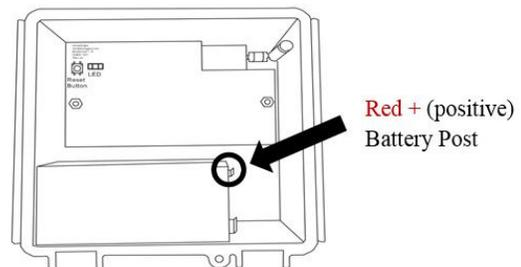

Figure 2
3. Hook up the Master unit battery by connecting the red wire to the red post on the battery inside the unit (see *Figure 2*). You will see **the LED flash rapidly in GREEN** after the battery is connected. **IF USING AN AUXILIARY BATTERY PACK PLEASE REFER TO ENCLOSED INSTRUCTIONS.**